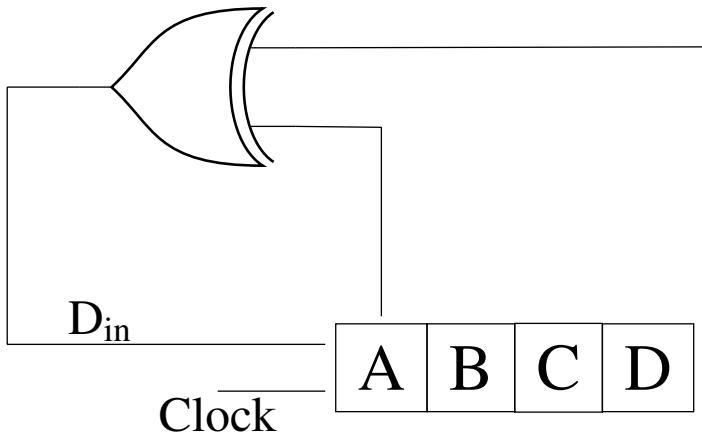

Fig. 5.17
17. A 4-bit shift register circuit configured for right-shift operation, i.e.  $D_{in} \rightarrow A, A \rightarrow B, B \rightarrow C, C \rightarrow D$ , is shown in Fig. 5.17. If the present state of the shift register is  $ABCD = 1101$ , the number of clock cycles required to reach the state  $ABCD = 1111$  is \_\_\_\_\_.